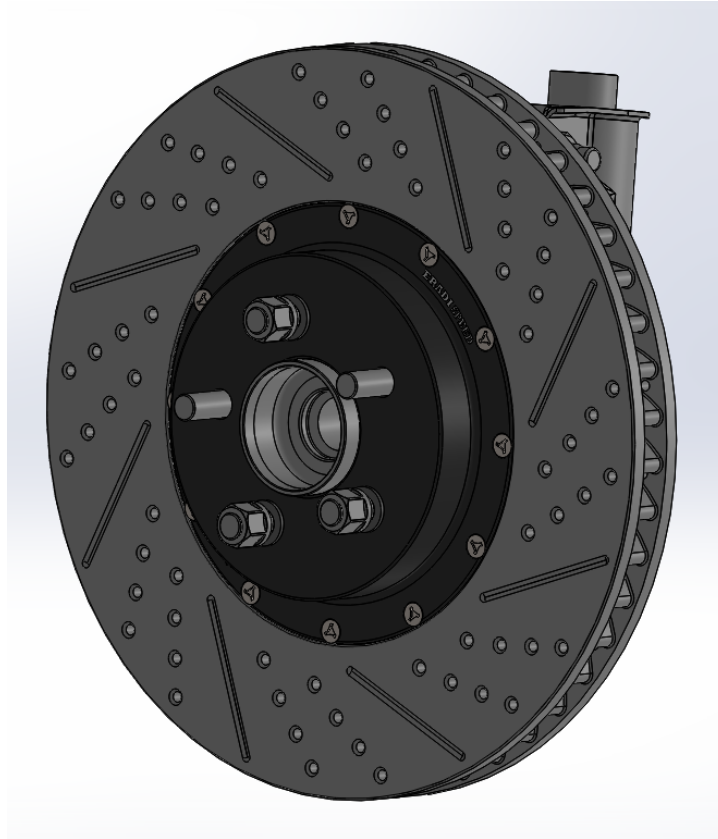

Figure 4. ES+ Rotor installation
2. Temporarily secure the rotor to the hub with three lug nuts and washers to prevent scratching the rotor hat face (Figure 4).